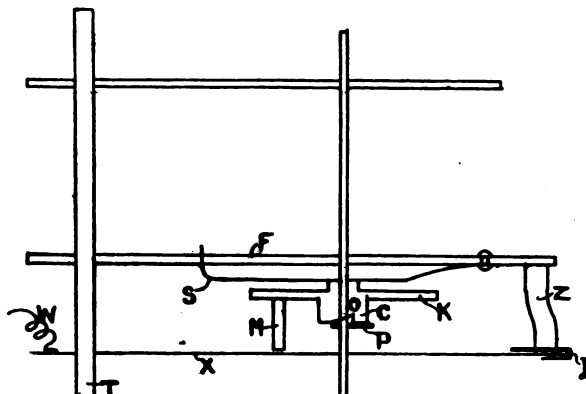
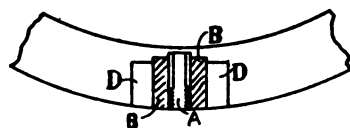

FIG. 1.
FIG. 2.
If you now look between the face and the brass frame of the works, you will see a cogwheel in the position shown in Fig. 1 at K. Here F is the framework, X the face, and T the main spindle carrying the hands. Of course, there are other cogwheels (left out for clearness in the figure), but the special one wanted can be easily found by revolving the hands to the hour at which the alarm hand is set, when one cogwheel will be seen to jump some $\frac{1}{4}$ in. towards the face of the clock. This jump is caused by the spring S, which presses the boss C on K against the pin P on the alarm hand spindle, so that the moment K has turned so far that the cam edge O cut in C is over the pin P, S forces K forwards. It is this forward movement of K, from what I will call the "in" to the "out"
1 in. wide. This ring must be "seccotined" to the cast-iron ring Z, to which the face of the clock was originally fastened (the proper ring is shown in position at I). As soon as the Seccotine is dry, get a straightedge and lay it across from side to side of Z above K, and measure the distance between K and the straightedge for "in" and "out" position of K; add these two distances, and halve result. This will give the length of wire required to make contact. The wire should be $\frac{1}{4}$ in. brass wire, and should be soldered to K in the position shown at M, Fig. 1. To test that M is the right length hold face firmly in position, and revolve hand spindle; M should revolve clear of the face till alarm time, when it should spring forward and hit the back of face smartly, remaining in contact for about one revolution of minute hand. Since the whole action of the alarm depends on the right length of M, care should be taken that the clearance before and friction of M after contact are good; if this is attained, the alarm will remain perfectly reliable and automatic as long as the clock will go, the scraping of M over the face backing always ensuring a good electric contact.
The hole in one of the bosses (D, Fig. 2), into which the leg screw, must now be drilled out to about $\frac{1}{4}$ in., and a vulcanite or hard wood plug (B) fitted in. A small piece of copper tube (A), tapped for the leg to screw into, should now be procured, and a hole drilled in the plug for use
Now to fit together. Solder a short piece of insulated wire W (Fig. 1) to clock face backing, and having seccotined the paper ring I all round, press face into position, seeing that it clears hour and alarm hand spindles, and top overhanging edge of I over edge of face all round, as shown in Fig. 1; keep all pressed in position for a couple of hours; now solder the other end of wire W to tube A (Fig. 2). The apparatus being now complete, the works may be slipped into the barrel, and the legs and gong screwed on.